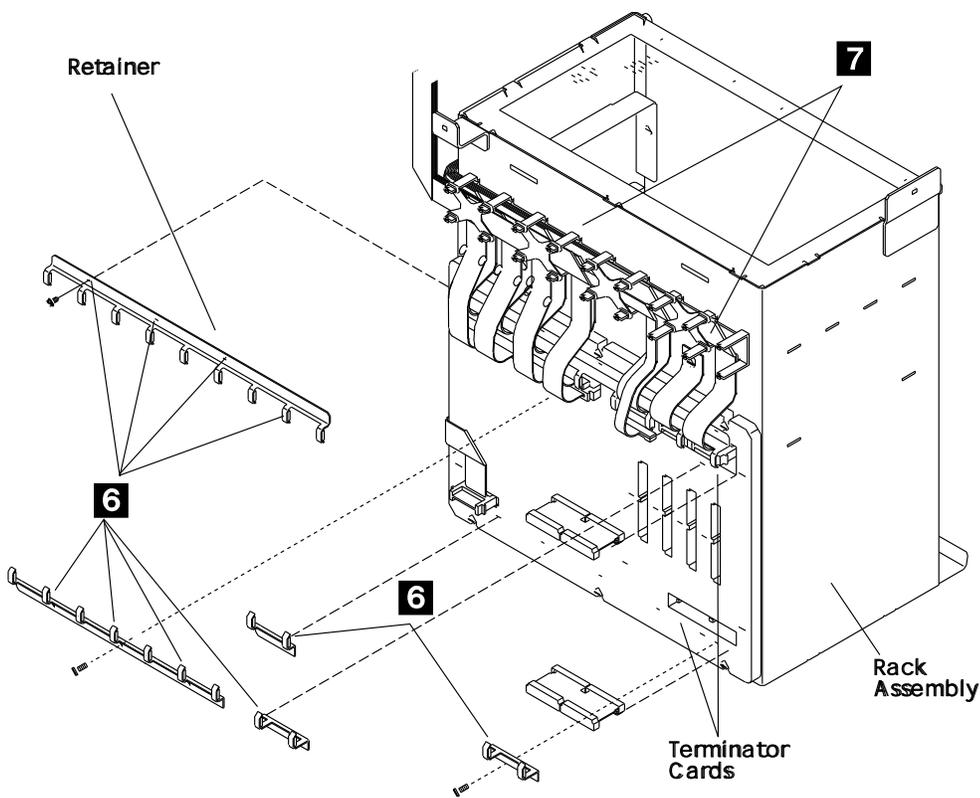
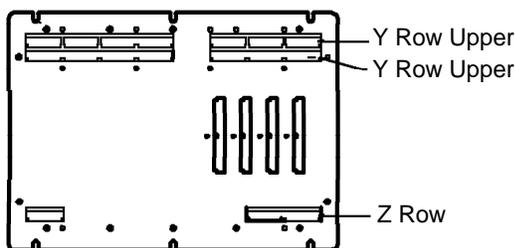

Figure 4-110. Basic Board Cables
Figure 4-113. Y and Z Rows
23. Refer to **Figure 4-110** .
5. Reconnect the two ground FDS cables and fasten them to the rack assembly with the two screws **7**. Refer to Figure 4-110 on page 4-80.
6. Reconnect the other cables. Refer to Figure 4-110 on page 4-80 and to Figure 4-113.
8. Install the terminator cards and tighten them with the two retainers (one screw per retainer). Refer to Figure 4-110 on page 4-80.